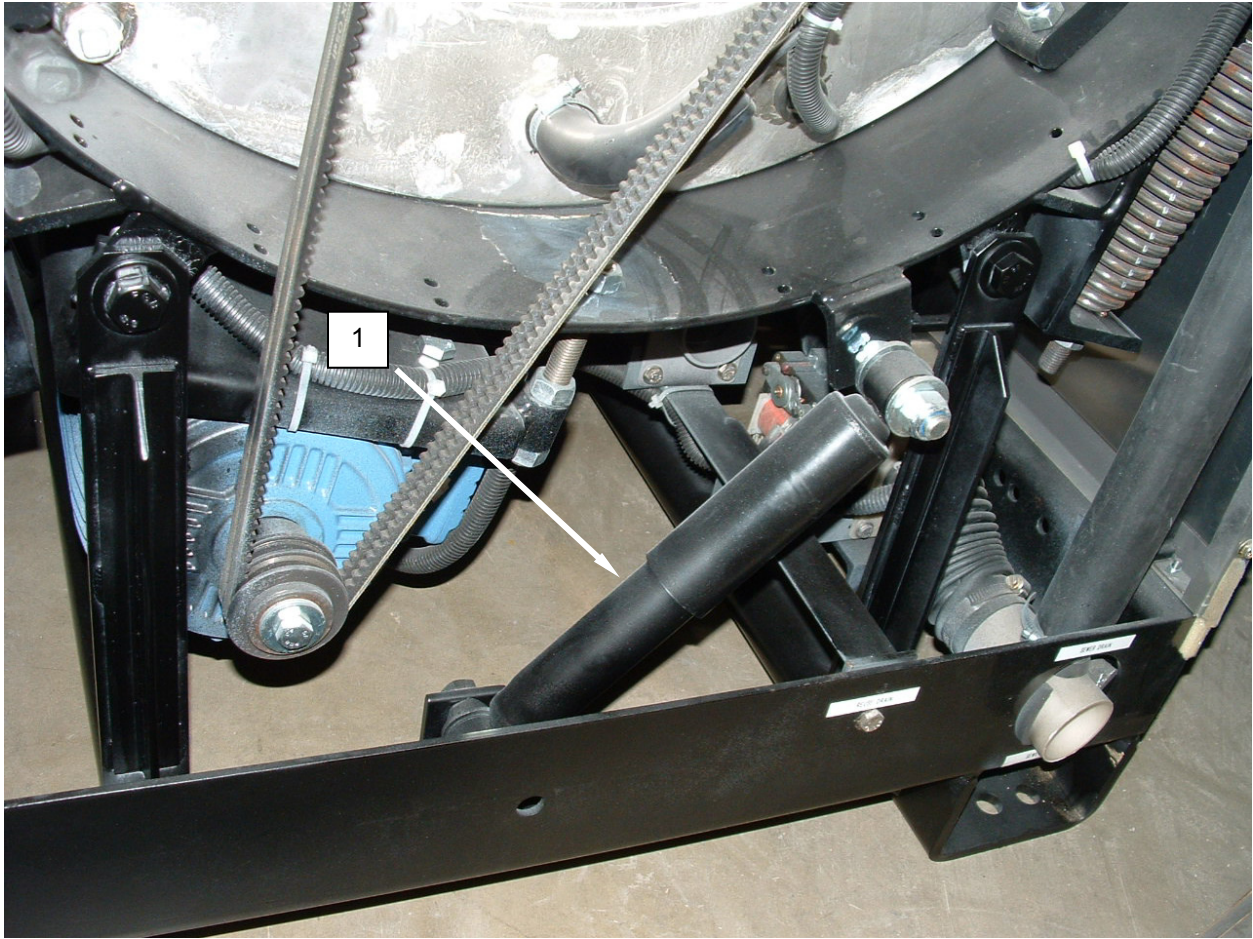

Figure 1. Inspect the Washer Shock Absorbers.
2. Inspect shock absorbers (**Figure 1, Item 1**) for physical damage, fluid leakage, or loose bolts.